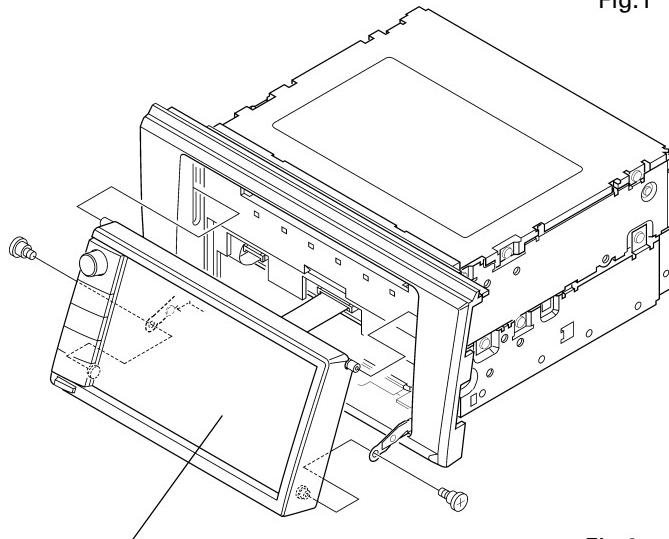

Fig.2
3. Remove the two screws. (Fig.2)